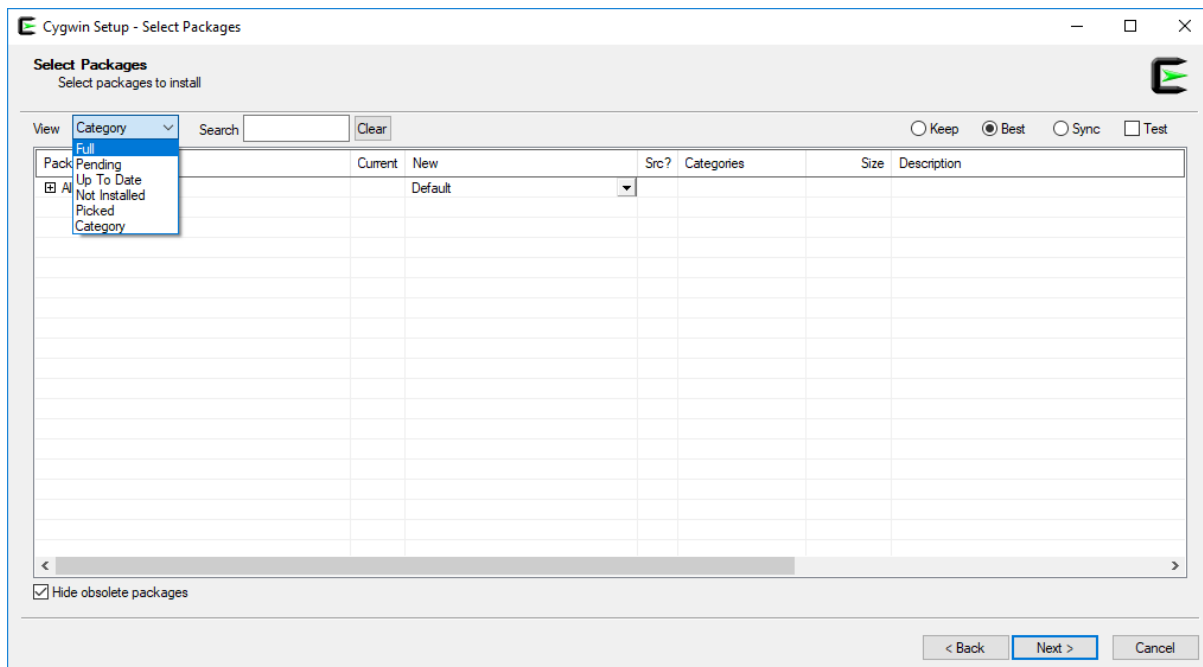

Figure 85. Select Packages window
- After several steps, you will reach the **Select Packages** window (Figure 85). Select the **Full** view, as shown in Figure 85.